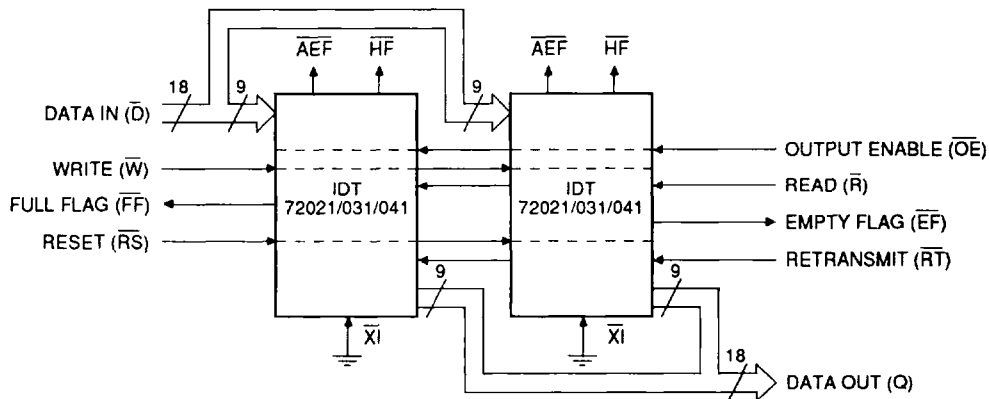

Figure 14. Block Diagram of 1K/2K/4K x 18 FIFO Memory Used in Width Expansion Configuration
device. Figure 14 demonstrates an 18-bit word width by using two IDT72021/031/041 devices. Any word width can be attained by adding additional IDT72021/031/041s.
2. For flag detection see section on Width Expansion and Figure 14.